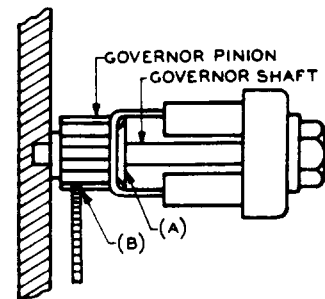

Fig. 1 - Lubricating Governor Pinion
- (6) Fig. 1(A) - One discharge at the right-hand face of the governor pinion.